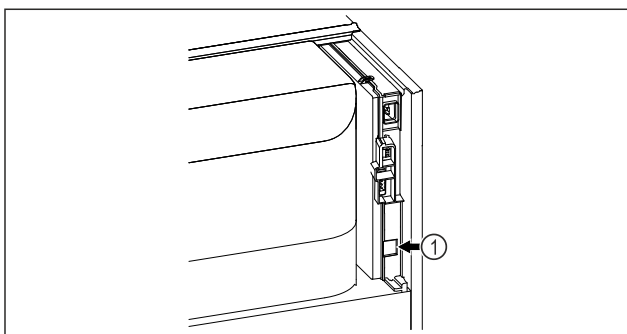

Fig. 100
- SmartModule Fig. 100 (1) is in use.